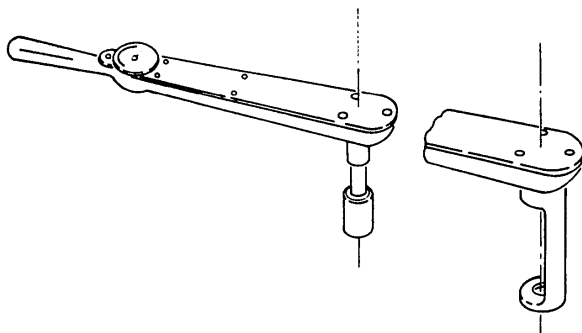

Figure 8-15. Concentric Torque Wrench Attachments
(1) *Concentric attachments.* The use of an attachment which operates in line with the drive square of the wrench presents no particular problem, since the effective length of the wrench is not lengthened or shortened. The torque applied to the fastener will therefore be the torque value indicated on the dial. Figure 8-15 illustrates typical attachments of this type. These attachments may also be used on the audible indicating torque wrenches without affecting the torque setting.